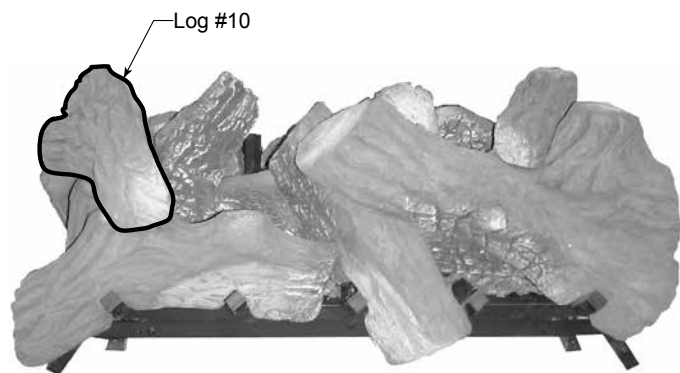

Figure 5.10 - Place Log #10
10. Place log #10 by aligning two (2) rectangular notches on bottom of log with rectangular protrusions on logs #6 & #7. Make sure the ember or 'burnt' area of log is facing center of burner. *Figure 5.10*